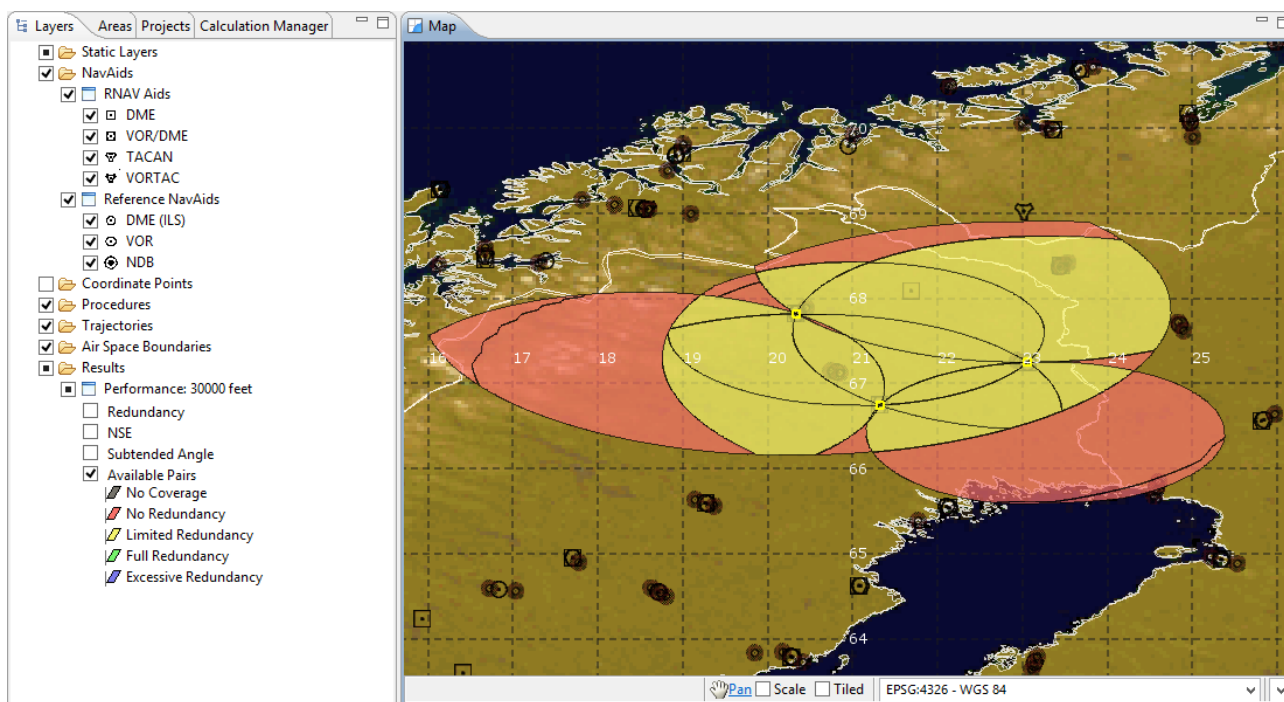

Figure 159: Performance Sample; Available Pairs
1. Use the **Identify Tool** (click on the  icon), located on the toolbar, and move the mouse over any area (Figure 159).